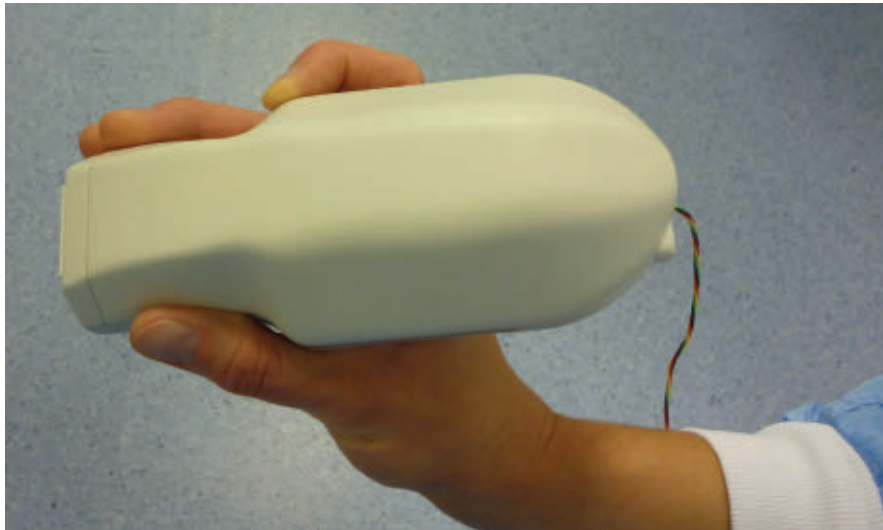

FIGURE 4. The FULLPHASE photoacoustic handpiece probe. (Courtesy of Quantel Laser)
Within the MINERVA project, the MIR Photonics Group at the University of Nottingham (England), in conjunction with researchers at Technical University of Denmark (DTU; Copenhagen, Denmark), has demonstrated extreme broadband supercontinuum (SC)-generated light 1.4–13.3 μm in a specially engineered, high-numerical-aperture MIR optical fiber (see Fig. 4).^{9,10} These active MIR fibers, exhibiting broadband supercontinuum lasing, have the potential to rival the brightness of even synchrotron-produced
FIGURE 4. Achieving record extreme broadband supercontinuum-generated light in a specially engineered MIR optical fiber involves input pump spectrum (dashed line) and spectral profile at maximum pump power (solid line), showing broad, flat supercontinuum (1.64–11.38 μm at -20 dB) followed by a strong spectral peak extending the spectrum all the way to 13.3 μm (a).⁹ Spectral evolution with increasing pump peak power shows a gradual redshift of a distinct spectral peak at the long-wavelength edge, plus corresponding formation and blueshift of dispersive waves (b). Fiber output near-field beam profiles—for all wavelengths of input pump spectrum (c) and beam profile for wavelengths >7.3 μm only (d)—show that long wavelengths are still confined to the core. This exceeds previous record values by factor of two.¹⁰
Meanwhile, the European FULLPHASE project launched in October 2012 is making headway in its development of a portable, multiwavelength photoacoustic/ultrasound system for point-of-care disease detection and treatment monitoring in oncology, rheumatology, and cardiovascular disease (see Fig. 4). Among the project participants is Quantel, which was selected to provide the diode lasers for this program because of the company's unique ability to efficiently package high-power quasi-continuous-wave (QCW) diode stacks and arrays, according to Andreas Kohl, technical lead for Quantel's diode laser group.